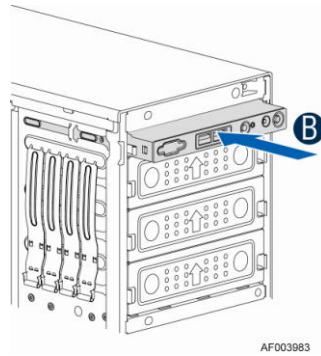

**Figure 8. Installing the New Front Panel Board**
6. Attach the new front panel board in the front panel tray (see letter **A** in Figure 8) and secure the new front panel board with the screw (see letter **B** in Figure 8).